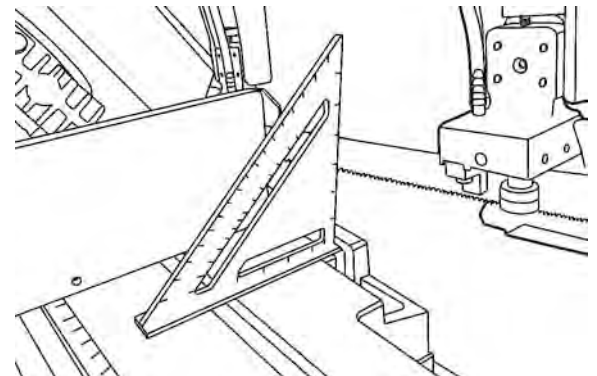

FIGURE 17
1. Examine the workpiece and try to determine which way the blade is twisting or place a 90 degree square on the table and against the blade as shown in Fig.17.